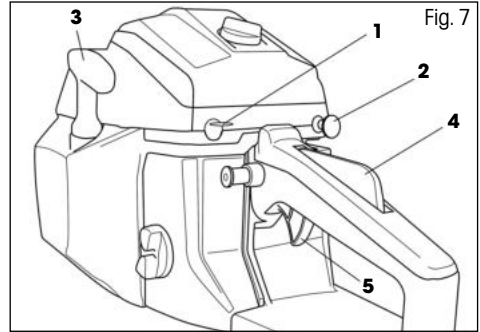

Fig. 7
1. Set the main power switch to the top position (see Fig. 7, point 1)
2. Pull out the choke lever (Fig. 7, point 2) but do not touch the throttle trigger.
4. At this point, push the choke lever back in (Fig. 7, point 2) and start the engine by repeatedly pulling on the starting cord.
- ✿ To increase speed, first use the palm of your hand to push down the throttle safety switch (Fig. 7, point 4) and then use your finger to pull on the throttle trigger (Fig. 7, point 5)
- ✿ Release the throttle trigger (Fig. 7, point 5) and switch the main power switch to the "Stop" position (Fig. 1, point 1).